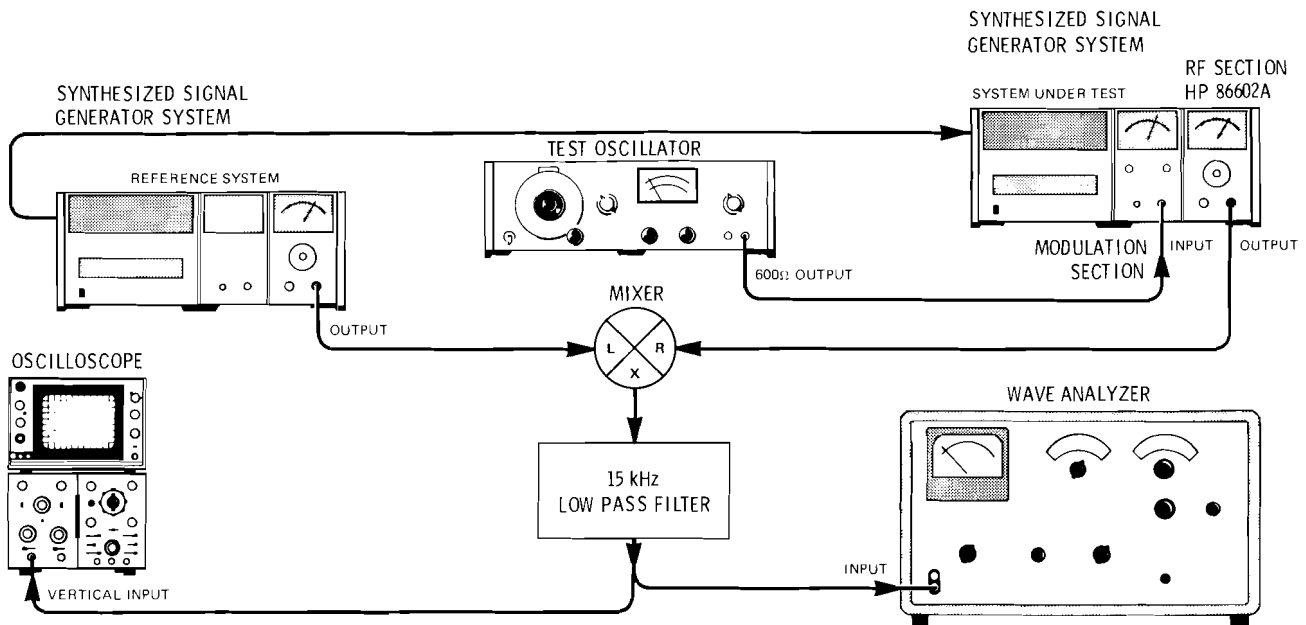

Figure 4-11. Incidental Phase Modulation Test Setup
1. Connect equipment as illustrated in Figure 4-11.